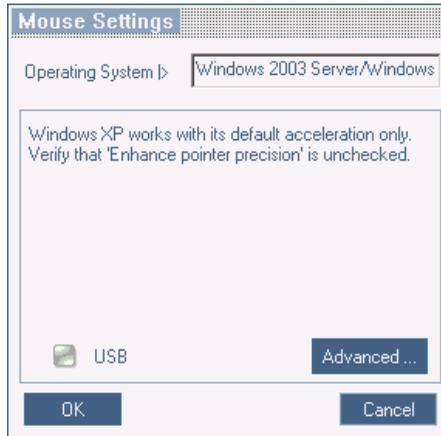

Figure 41 Mouse Settings Dialog box
1. From the Toolbar click  / **Manual Settings**. The **Mouse Settings** Dialog box appears see Figure 41.